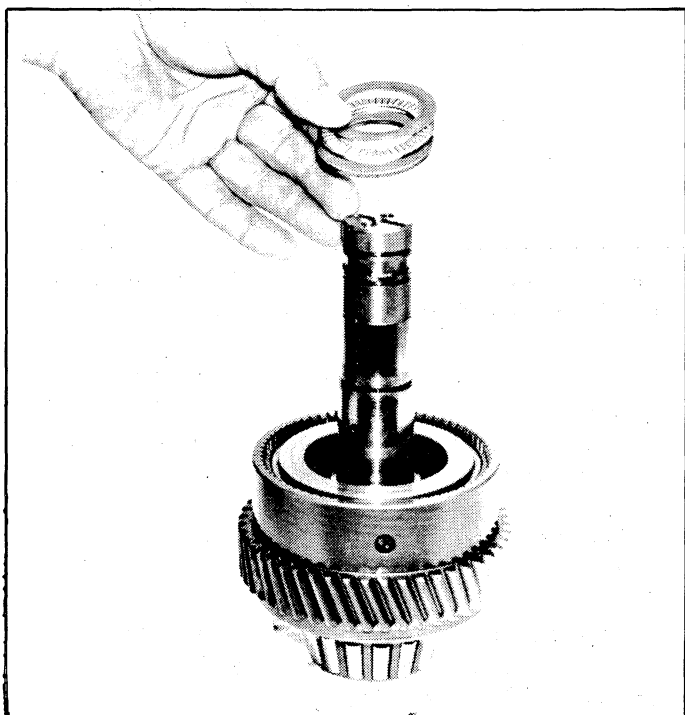

Figure 8-3. Removing or Installing the Clutch Hub and Pinion Assembly.
5. Remove the clutch hub and pinion assembly. See Figure 8-3.
9. Install clutch hub and pinion assembly (Figure 12-3, 15). See Figure 8-3.